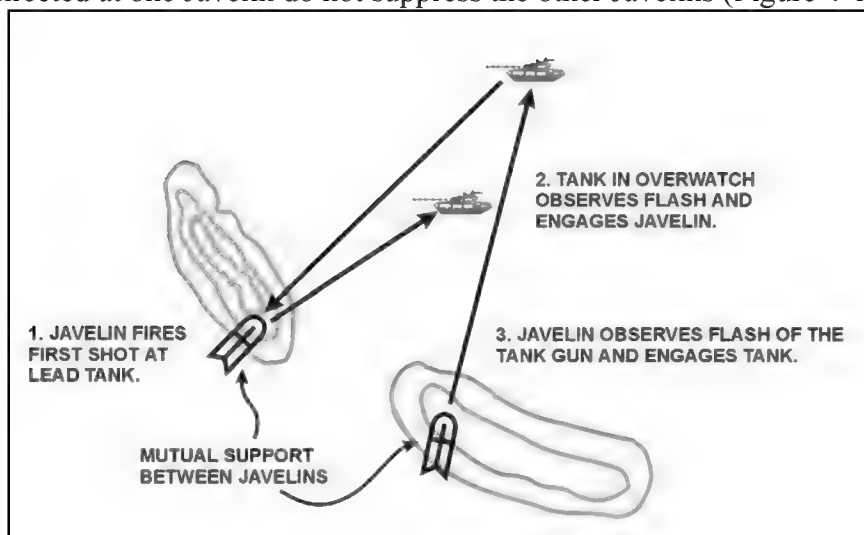

Figure 4-1. Mutual supporting fire.
(1) **Employing by Sections.** Employment of Javelins by section establishes mutual support between gunners. If one gunner has engaged and is displacing, the other gunner can continue to cover the assigned sector. To achieve this, the Javelins are positioned so that fires directed at one Javelin do not suppress the other Javelins (Figure 4-1).
(3) **Mutually Supporting Positions.** Javelins should be placed in mutually supporting positions to ensure continuous coverage of the engagement area (Figure 4-1).